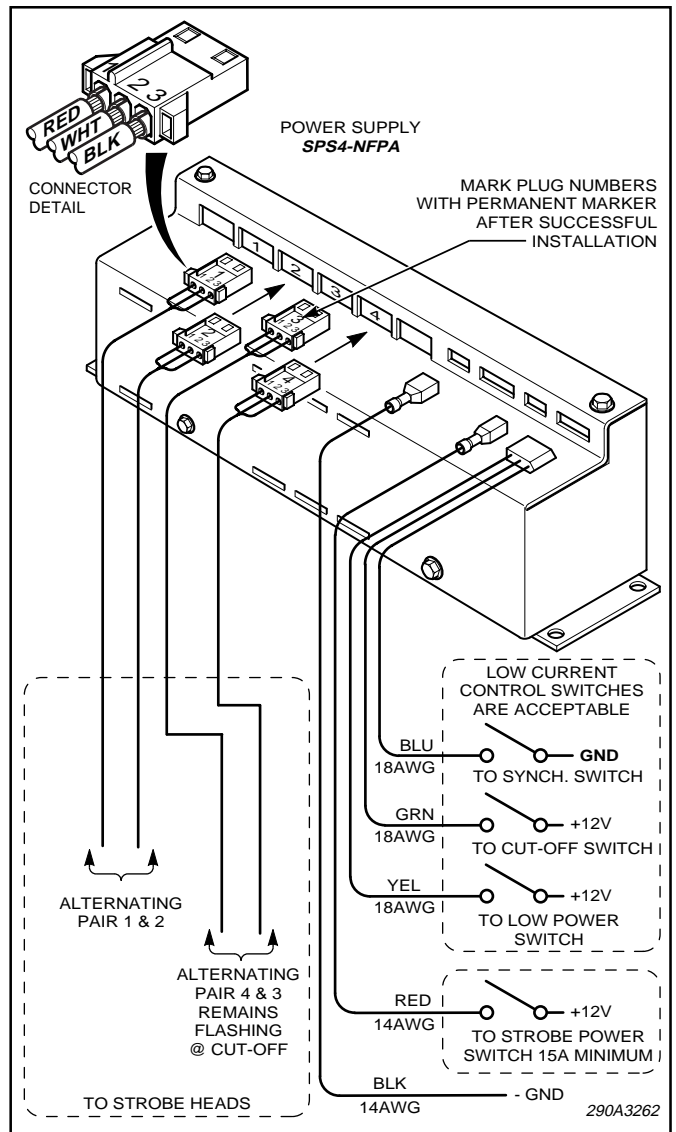

Figure 1.
Refer to figure 1 while completing the electrical connections. Note the sequence of the wire colors in the lamp connector.
5. If the cutoff function is desired, see figure 1 and proceed as follows: